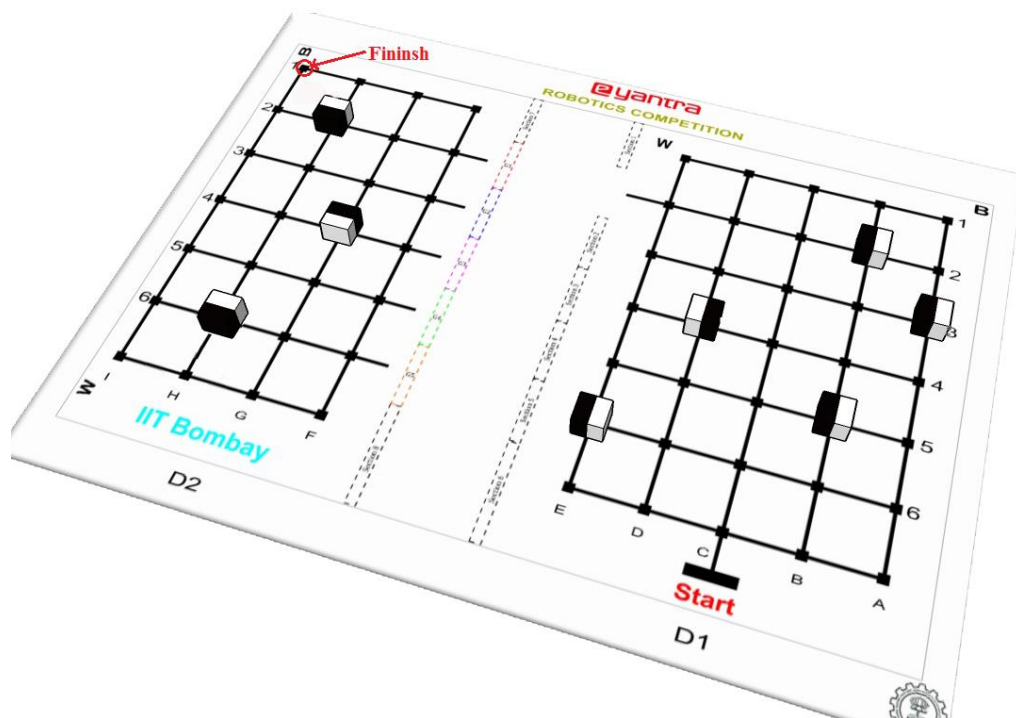

Figure 1: Arena
1. The robot starts from the **START** position of the arena representing a warehouse as shown in Figure 1.
- An illustrative example is shown in Figure 1.